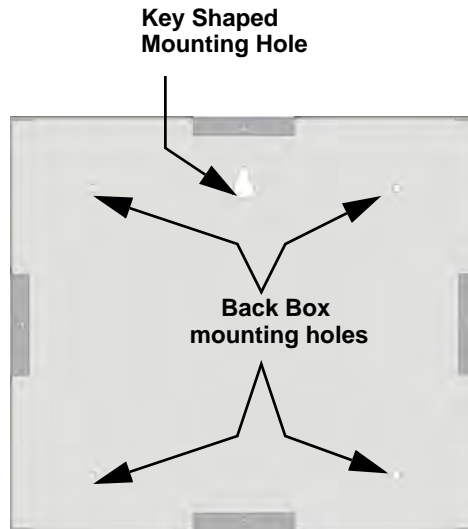

Figure 4.17 Back Box Surface Mount Holes
2. To mount the back box, insert a single screw into the key shaped mounting hole. Do not tighten all the way. See Figure 4.17.